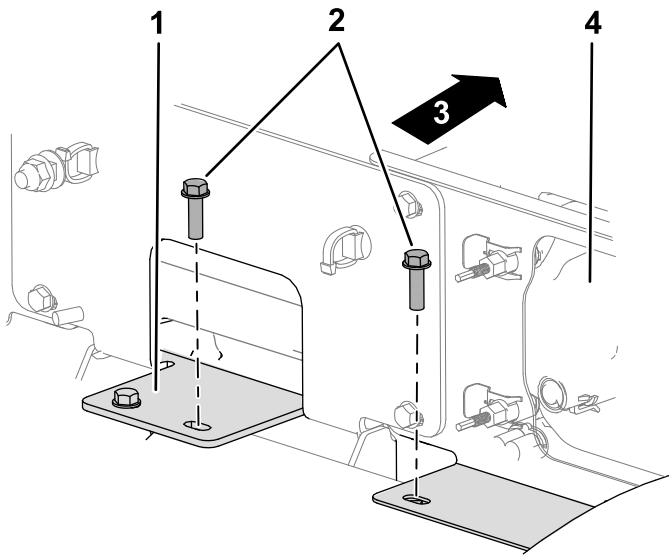

Figure 36
3. At the lower headlight support, remove the 2 hex washer head bolts (1/4 x 7/8 inch), inboard of the right headlight, that secures the headlight brackets to the headlight (Figure 36).